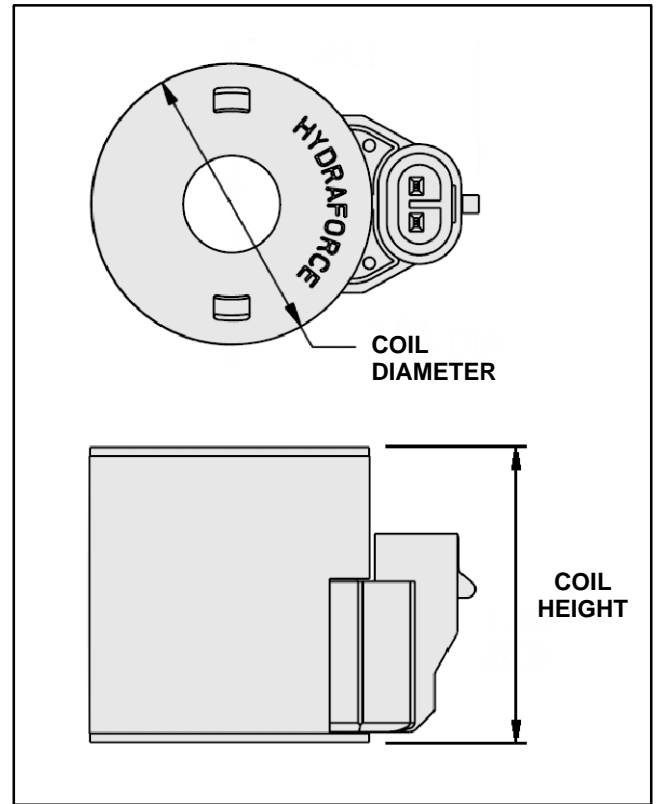

Figure 39
Solenoid valve coils with two (2) different resistance specifications are used on the 4100-D and 4110-D. The correct resistance of a coil can be identified by measuring the height and diameter of the coil (Fig. 39). Resistance testing of the coils can be done with the coil remaining on the hydraulic valve.
3. Identify coil resistance specification by measuring the coil diameter and coil height (Fig. 39).